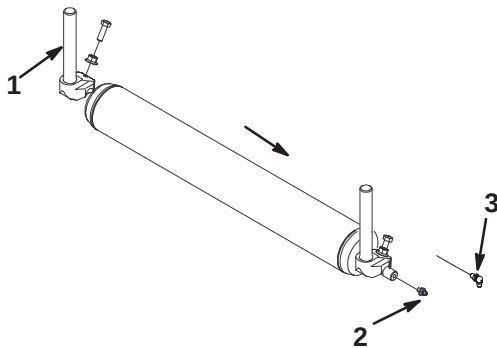

Figure 7
- On motor end of cutting unit, remove bolt and flange nuts securing rear roller shaft to support rods. On opposite end of roller, loosen bolt and flange nut securing shaft to support rod. Slide roller to weight end; and lock roller shaft to support rod with bolt (to keep shaft from rotating) (Fig. 7).
- Using a 5/16" wrench, remove straight grease fitting from weight end of roller shaft (Fig. 7).
- Using a 3/8" wrench, thread a 90 degree grease fitting into end of roller shaft until approximately 1/8" thread is exposed. Do not over tighten. Grease fitting to be pointing down (Fig. 7).